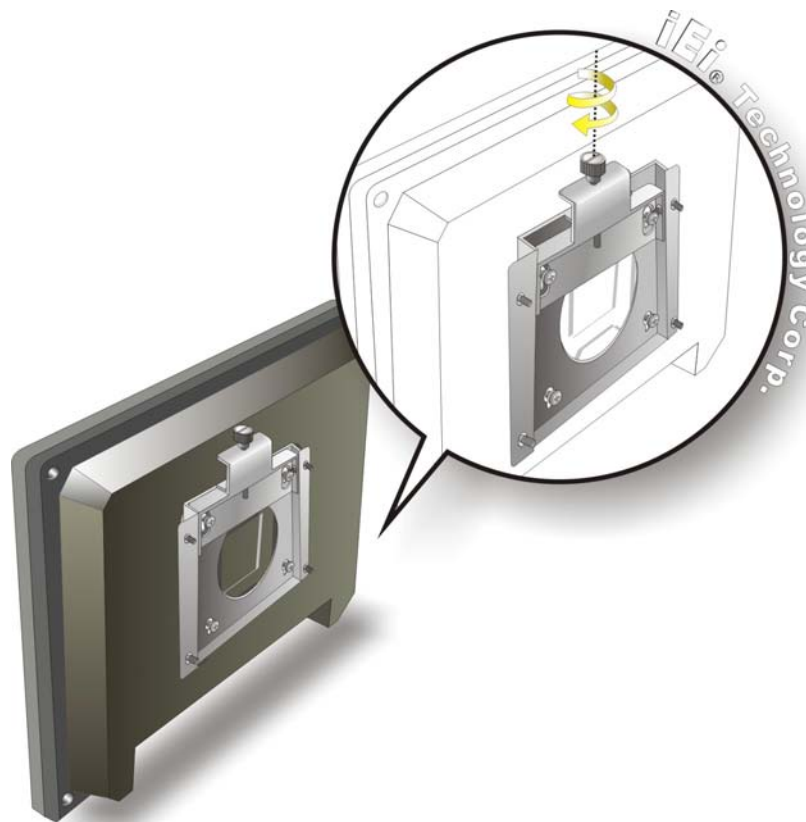

Figure 3-10: Secure the Panel PC
- Step 9:** Secure the panel PC by fastening the retention screw of the wall-mounting bracket. (**Figure 3-10**).